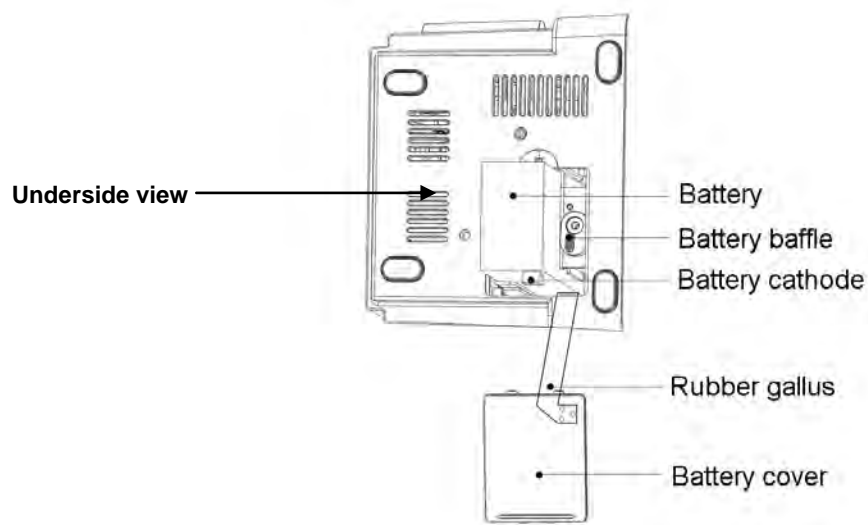

Figure 3.15 Battery Installation
2. Open the battery cover and place the battery in the direction as shown in Fig. 3.15 to insert the battery into any one of battery compartments. Do not insert battery with their polarities reversed.